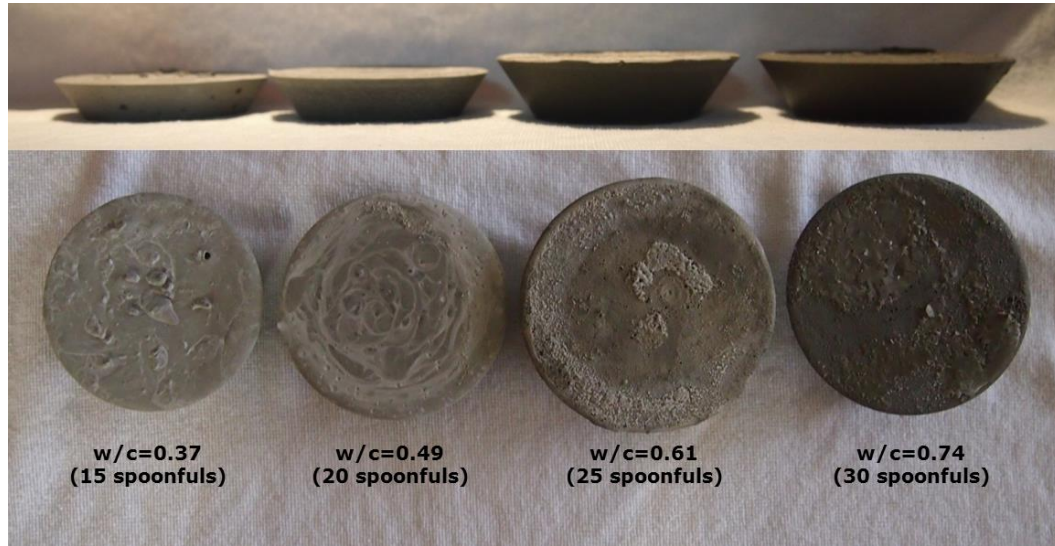

Figure 1. Influence of w/c ratio on the thickness and color of the cement puck
2. On the day of the lab, have each student prepare a styrofoam bowl so that it is ready for the cement paste. They should use a ruler to measure $\frac{3}{4}$ " from the bottom of the bowl on the slanted portion of the bowl and mark it with a pen. Measure this in several places and then use the marks to draw a line around the inside of the bowl. Students will pour cement paste into the bowl until reaching the line. This will create pucks that are approximately the same thickness. The thickness of a puck is influenced by the amount of each component added to the paste, and pucks of different thickness may perform differently due to geometry rather than the components added to the puck. Figure 1 shows pucks that were made with no regard to the thickness. It can clearly be seen that for the same amount of cement, adding different amounts of water can significantly influence the thickness of the puck. It is expected that the thicker pucks will perform better simply due to the added mass (i.e., a thicker object is usually harder to break than a thinner object of the same material). This is why it is important to specify the same thickness for all of the pucks.